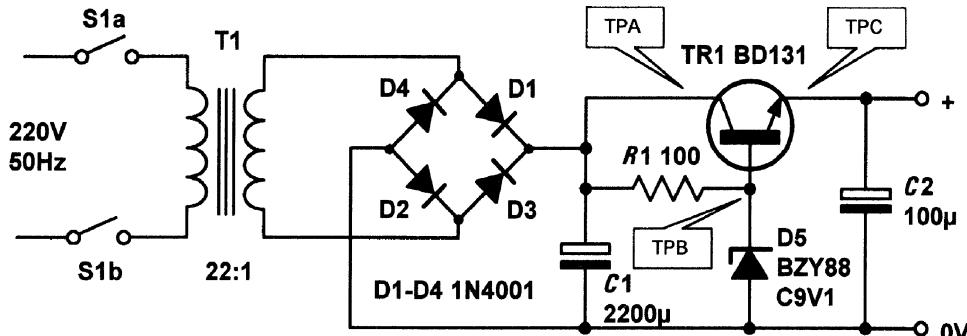

Figure 6.23
- 6.4 The circuit of a d.c. power supply is shown in Fig. 6.23. Determine the voltages that will appear at test points A, B and C.
- 6.5 In Fig. 6.23, determine the current flowing in R_1 and the power dissipated in D_5 when the circuit is operated without any load connected.
- 6.6 In Fig. 6.23, determine the effect of each of the following fault conditions: